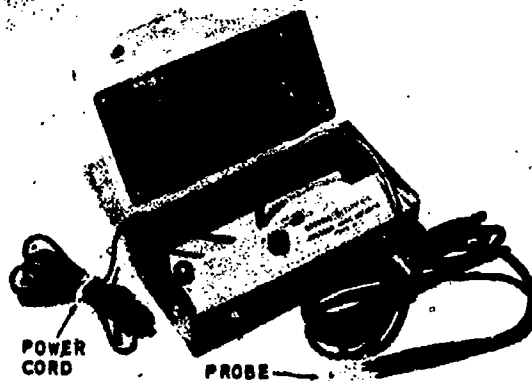

Fig 3-3. Electronic tester
- (3) Pressure and vacuum tests. These tests are nonpositive methods of detecting leaks. All that they will determine is that there is a leak somewhere in the system. In the pressure test, a positive pressure is built up inside the system and a reading is taken. After 24 hours another reading is taken. Any drop in pressure from the first reading indicates a leak. In the vacuum test, you would draw a vacuum on the system; any rise in pressure over a 24-hour period indicates a leak.
- (4) Electronic tester. (Fig 3-3). Another tester that could be used by the air-conditioning mechanic is the electronic tester. This is the most sensitive of the testers. On sensing the refrigerant leak, there will be a change in current flow that will show on the meter.